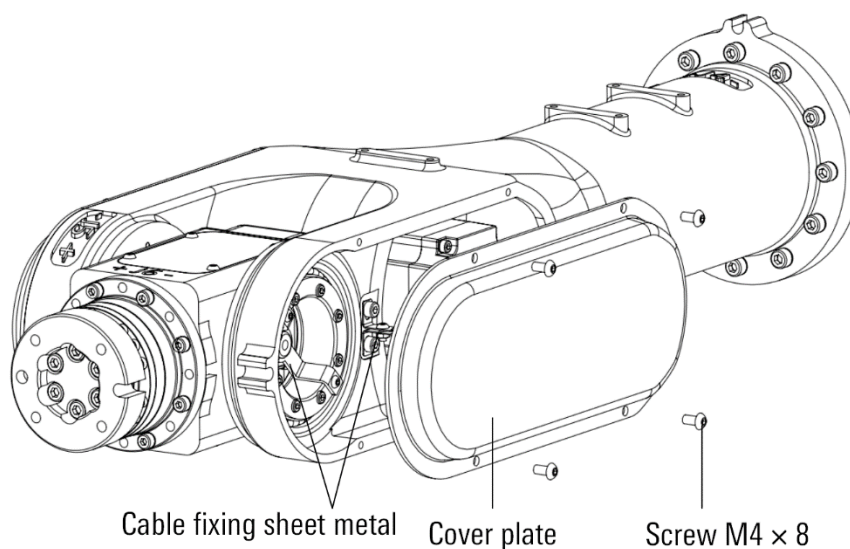

Figure 12-4 AIR12-1420 wrist internal cable
- Step1. Remove the cover plate as shown in Figure 12-4.